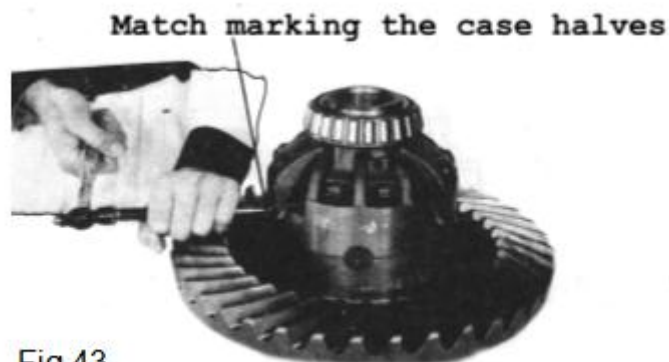

Fig 43
- * Match mark the case halves to ensure correct reassembly as shown in Fig. 43.